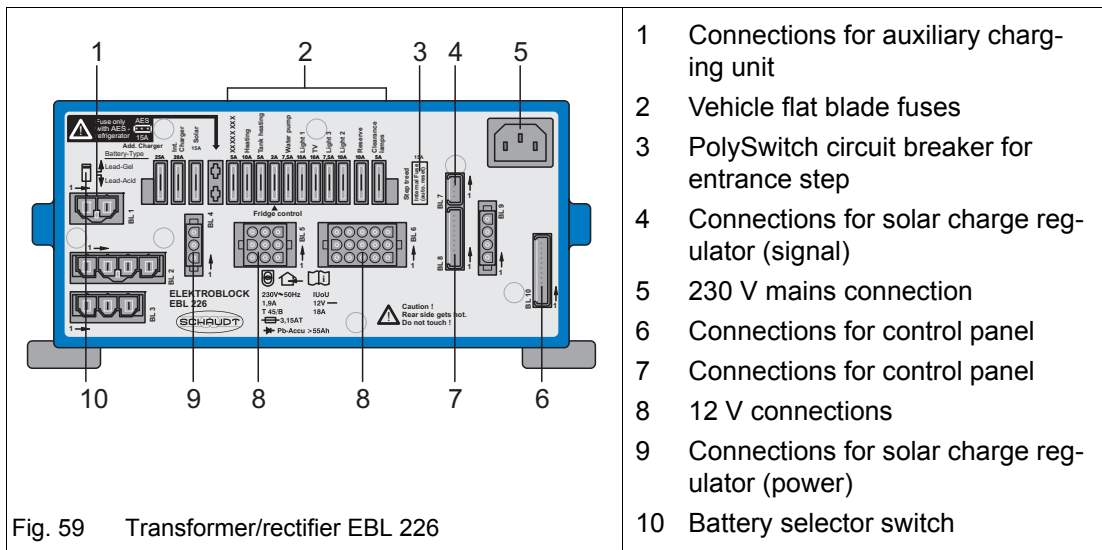
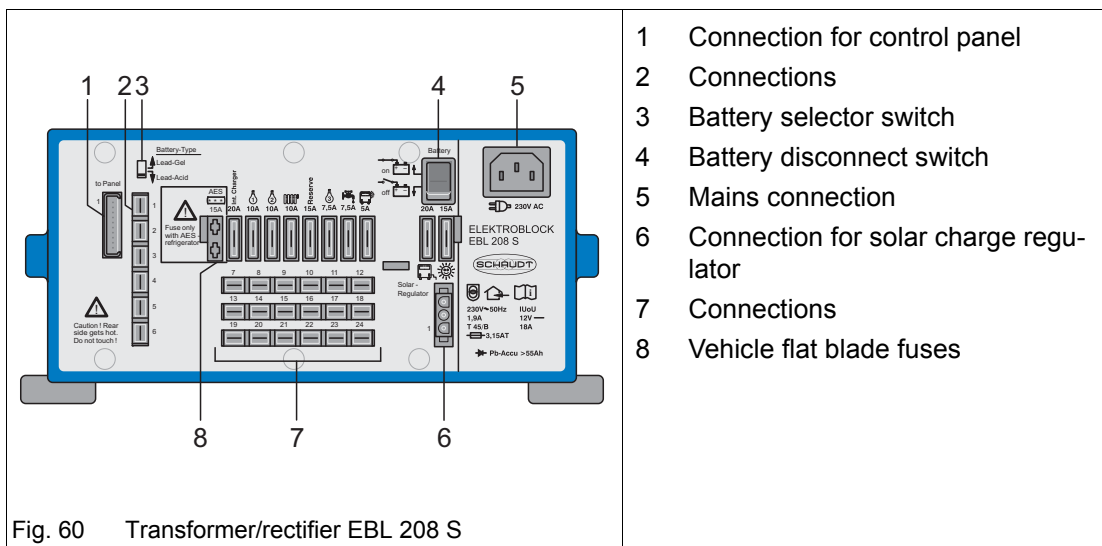

Fig. 59 Transformer/rectifier EBL 226
Fig. 60 Transformer/rectifier EBL 208 S
- ➔ Check the battery selector switch (Fig. 59/10) or (Fig. 60/3) is in the correct position.
- The flat blade fuses (Fig. 60/8) protect the different electric circuits. If required, remove the blue cover with the designation "FUUSE" (optional) and check or replace all fuses.
The battery disconnect switch (Fig. 60/4) disconnects the following connections from the living area battery:
The batteries can still be charged by the transformer/rectifier, the generator or the solar charge regulator (special accessory) (Fig. 60/6) when the battery disconnect switch (Fig. 60/4) is switched off.
- The entrance step is protected with a self-resetting PolySwitch circuit breaker (Fig. 59/2).
- Setting the battery selector switch (Fig. 59/10) or (Fig. 60/3) to the wrong position can damage the living area battery.
- Disconnect the transformer/rectifier from the mains before setting the battery selector switch (Fig. 59/10) or (Fig. 60/3) to a different position.